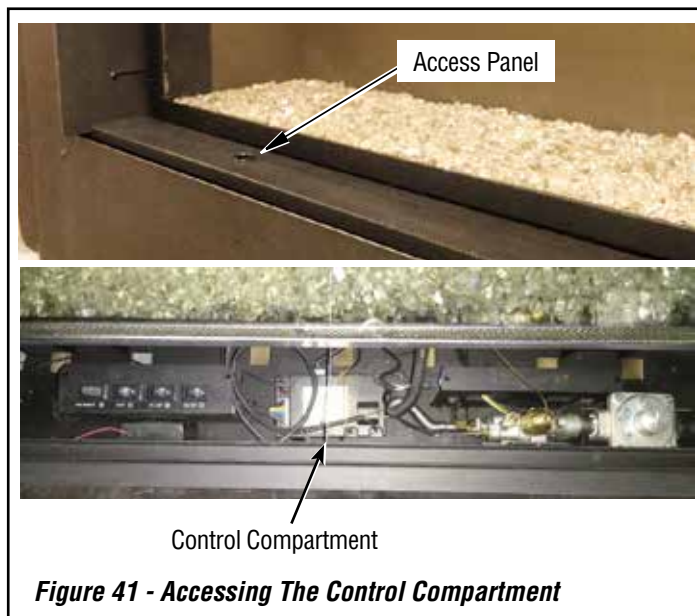

Figure 41 - Accessing The Control Compartment
- Remove the control compartment access panel (**Figure 41**).